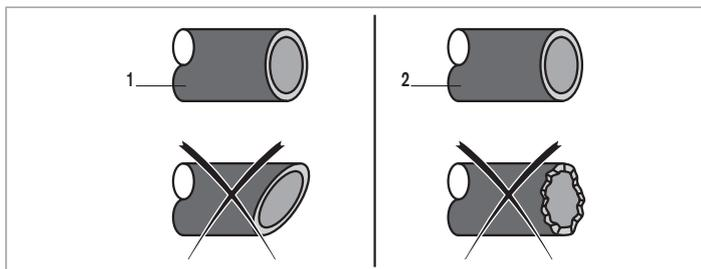

Fig. 16: Pipe cut and deburred
- Cut the pipe squarely [1] and deburr [2]. See Fig. 16.